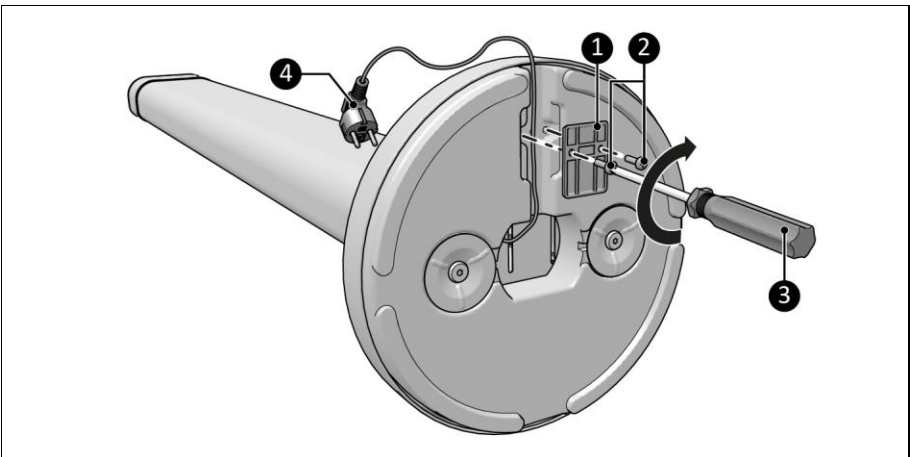

Figure 7
5. Place the power cable through the cable slot (Figure 7).
6. Put the cover plate (Figure 7, pos. 1) over the cable slot and fix it onto the base with the screws (Figure 7, pos. 2) and a Phillips screwdriver (Figure 7, pos. 3).